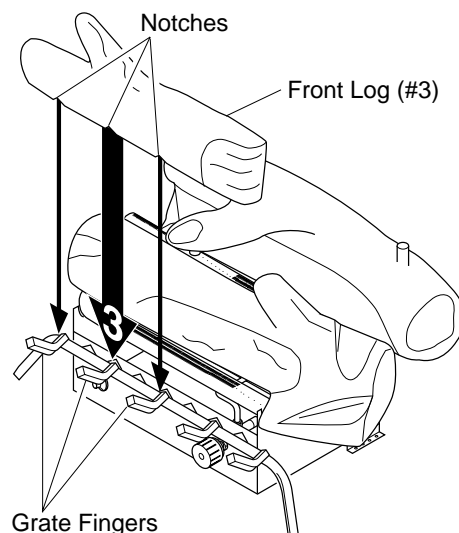

Figure 21 - Installing Front Log (#3)
3. Locate the notches in the bottom of the front log (#3). Place the front log on the grate fingers. Make sure the notches of the front log line up with the grate fingers (see Figure 21).